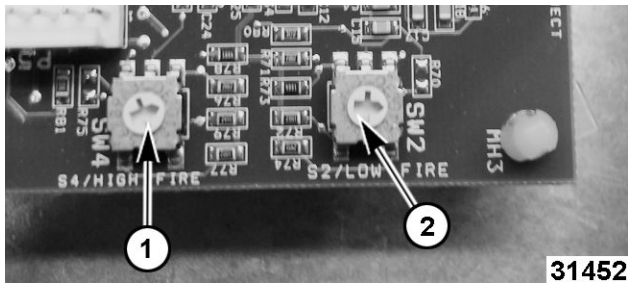

Fig. 47
- High Fire = F (1, Fig. 47)
- Low Fire = 8 (2, Fig. 47)